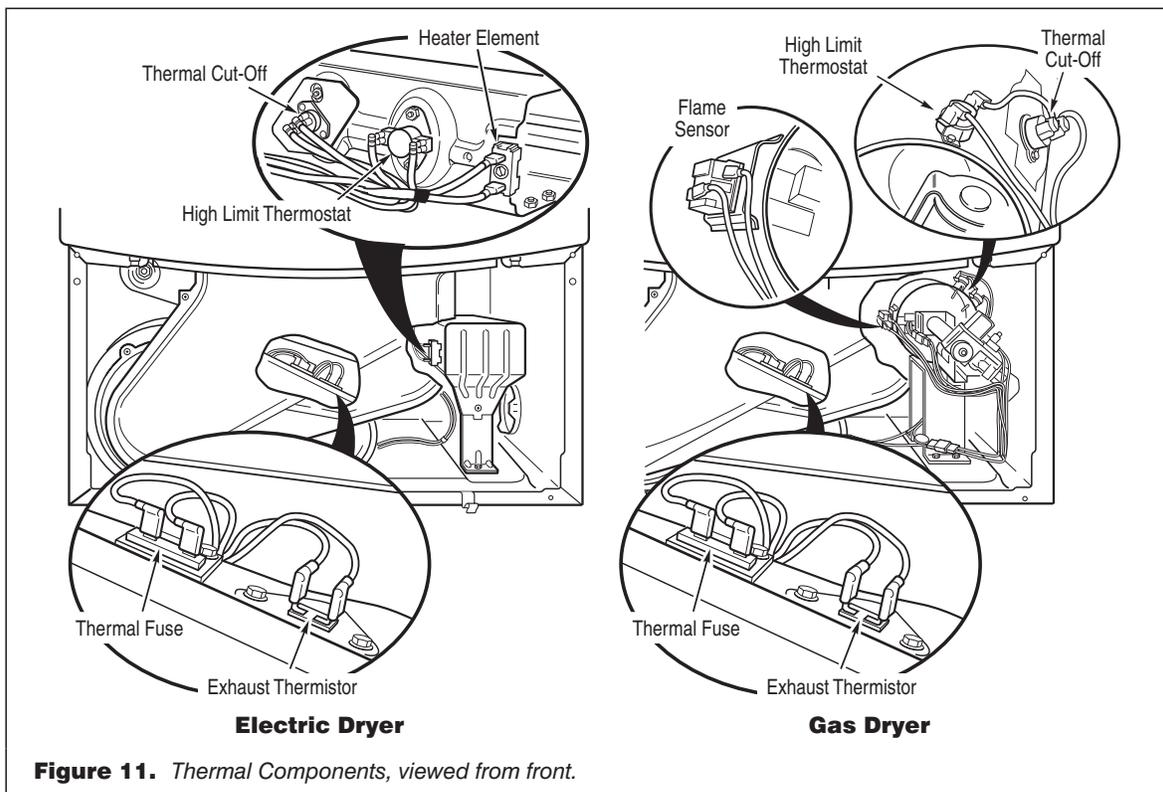

Figure 11. Thermal Components, viewed from front.
Locate the components using figure 11, page 7.
5. Locate the high limit thermostat. See figure 11. Measure the continuity through it by connecting the meter probes on the red wire and blue wire terminals.
- Check wire connections at the machine control electronics and thermistor. See Accessing & Removing the Electronic Assemblies on page 10, and for thermistor location see figure 11.
- Access the thermal fuse by first removing the toe panel. See Removing the Toe Panel, page 10; and for thermal fuse location see figure 11, page 7.
- Using an ohmmeter, check the continuity across the thermal fuse. See figure 11 for location.
- Using an ohmmeter, check the continuity across the thermal cut-off. See figure 11, page 7 for location.